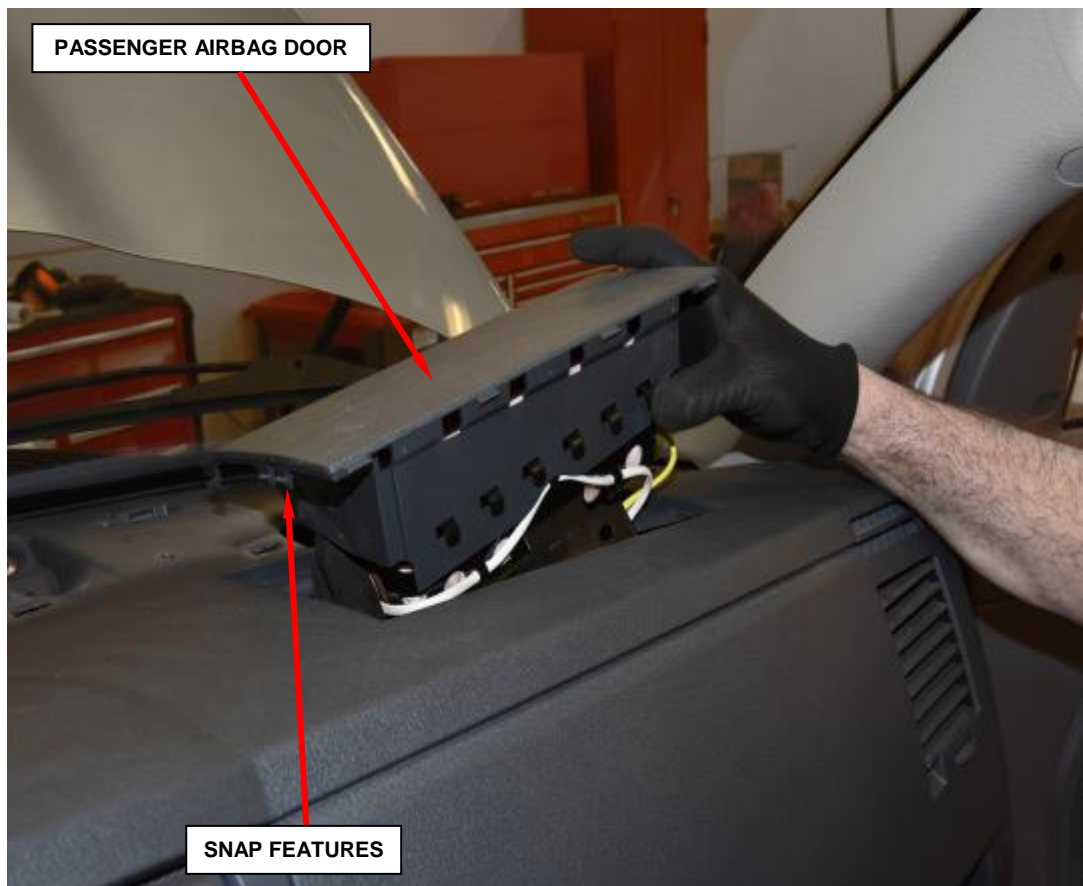

Figure 4 – Passenger Airbag Removal
11. Using a trim stick or another suitable wide flat-bladed tool, gently pry the airbag door forward, then the outboard edges of the passenger airbag door away from the instrument panel far enough to disengage the snap features on the door from the receptacles in the instrument panel base trim (Figure 4).